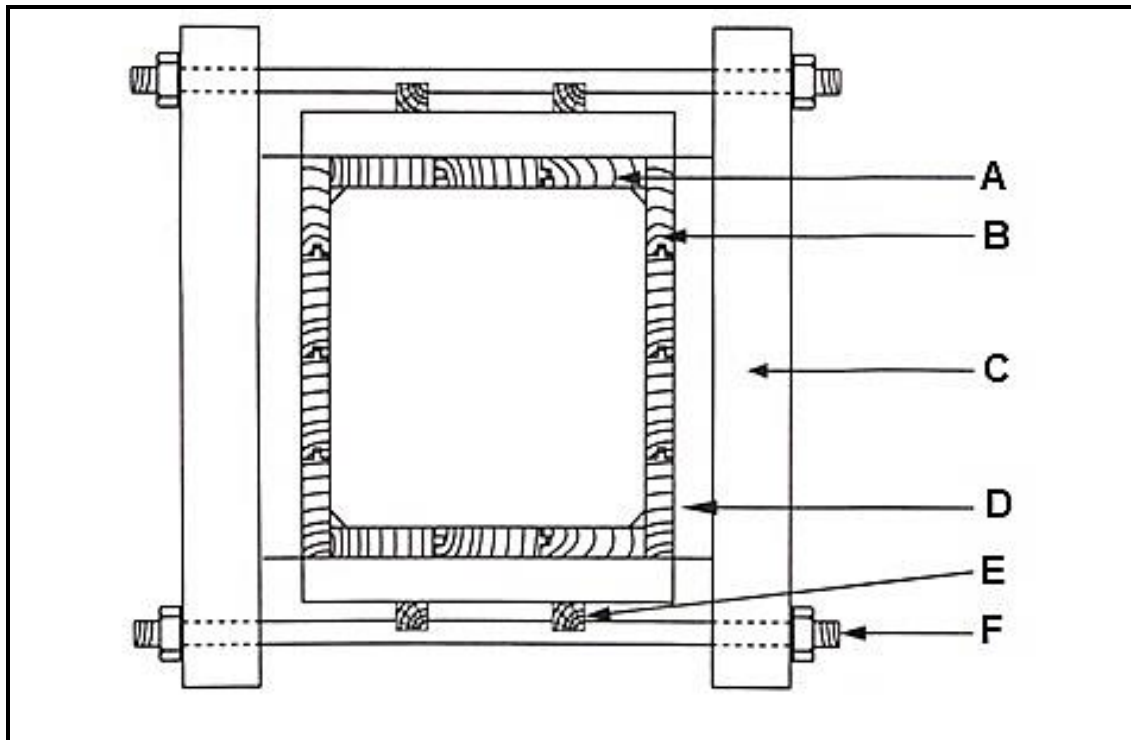

FIGURE 5.1
5.1 FIGURE 5.1 below shows a horizontal section through a square column.
Study FIGURE 5.1 and identify parts **A** to **D**. Write only the answer next to the letter (A–D) in the ANSWER BOOK, for example Column.